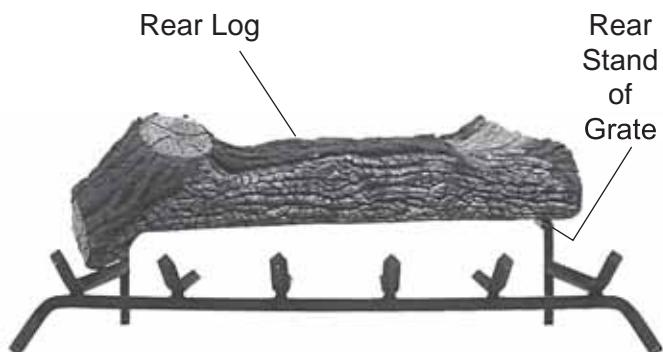

Figure 139 - Placing Rear Log #1 on Back Grade
2. Place Rear Log #1 on back of grate. Left side should fit on grate in front of rear stand. Right side goes on the rear stand of grate. *See Figure 139.*